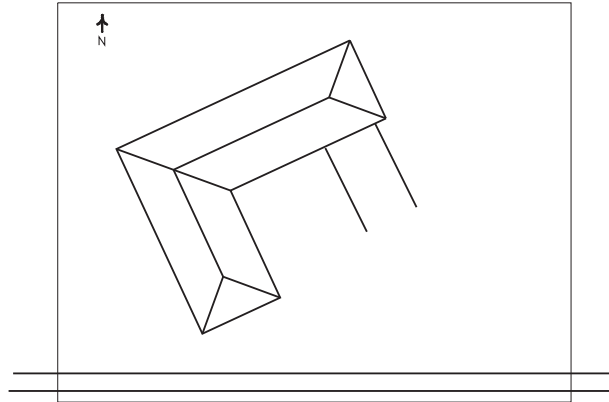

Fig. 18-3
The house rotates 25° counterclockwise. Your drawing should now look similar to the one in Fig. 18-3 without the additional lines.
1. Draw two horizontal xlines **3** apart to represent a sidewalk, as shown in Fig. 18-3.
2. Draw a partial driveway, as shown in Fig. 18-3. (Ortho should be off.) Make the driveway **13'** wide.